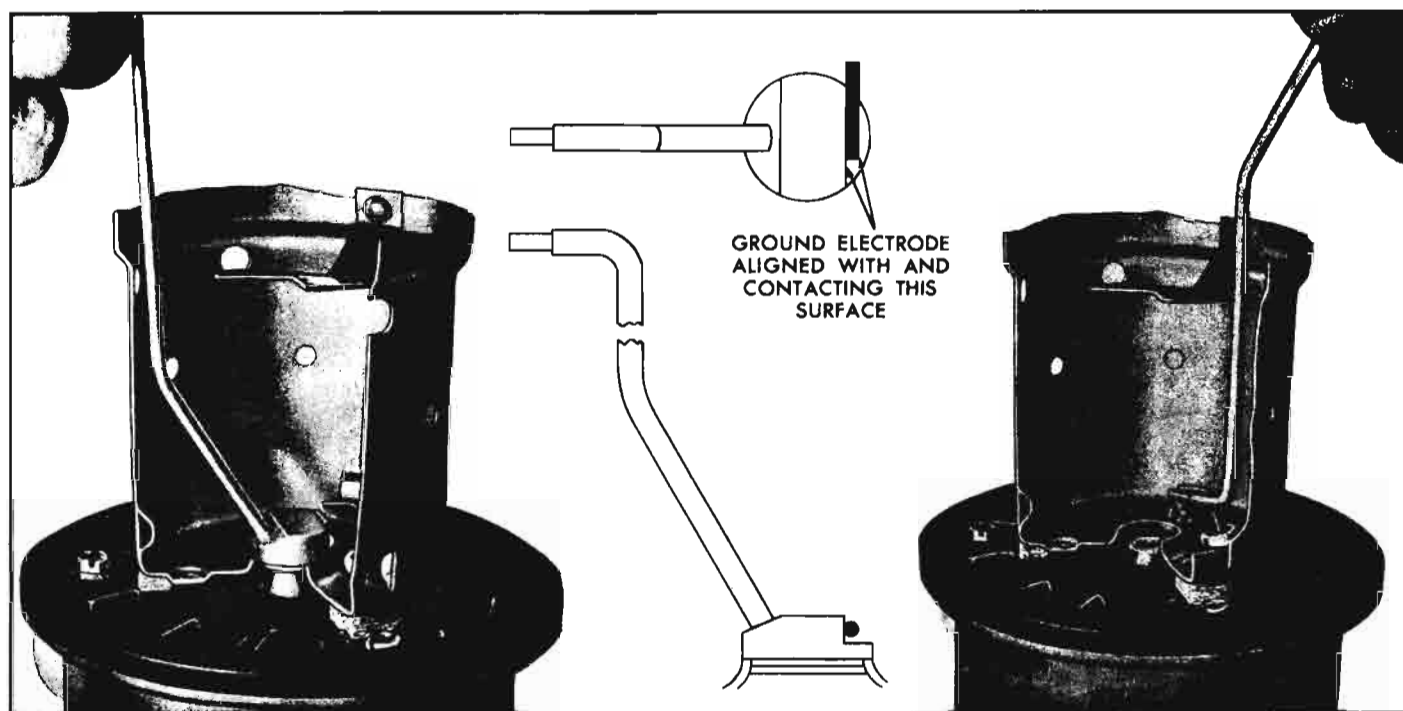

Fig. 11-6—Checking Spark Plug Alignment and Gap with Tool J-8368
7. Check and adjust ground electrode alignment and spark plug gap, using gauge J-8368, as follows (refer to Figure 11-6):